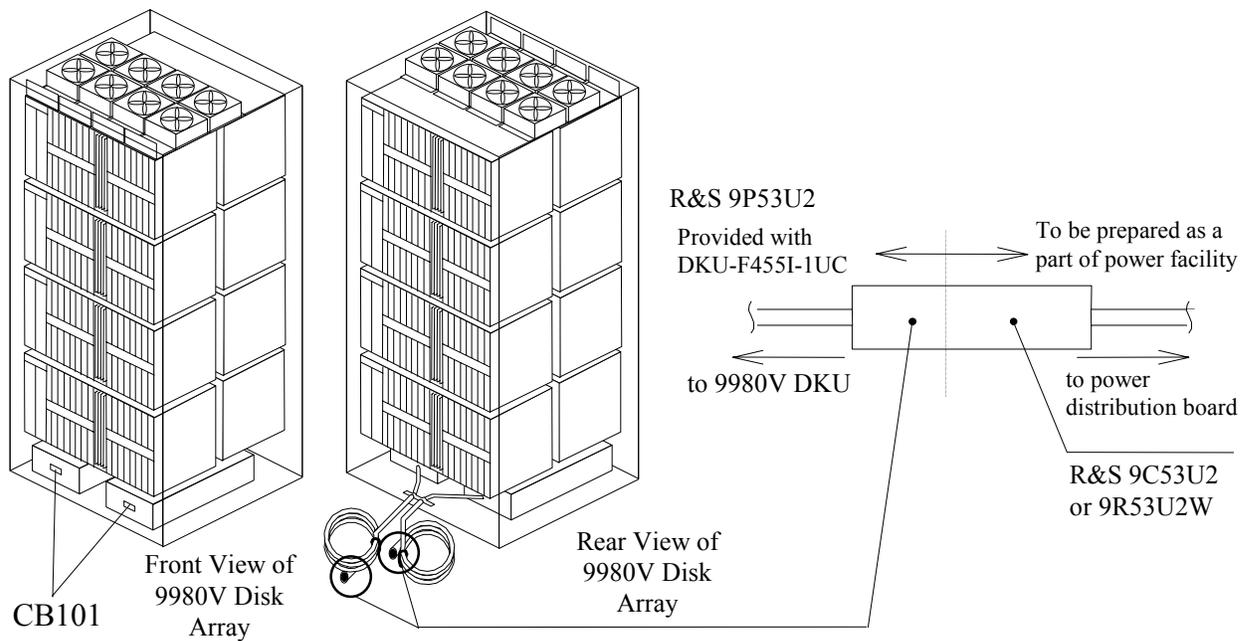

Figure 5.18 Power Plugs for a Single-Phase 9980V Disk Array Unit (USA)
- Figure 5.18 illustrates the power plugs for a three-phase 9980V disk array unit (USA).